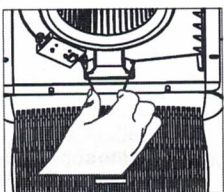

Figure 9.1
- i) Squeeze the grille spring and insert them into the slot on one sides near adjustor(option, if any) of the fan housing.(Figure 9.1)